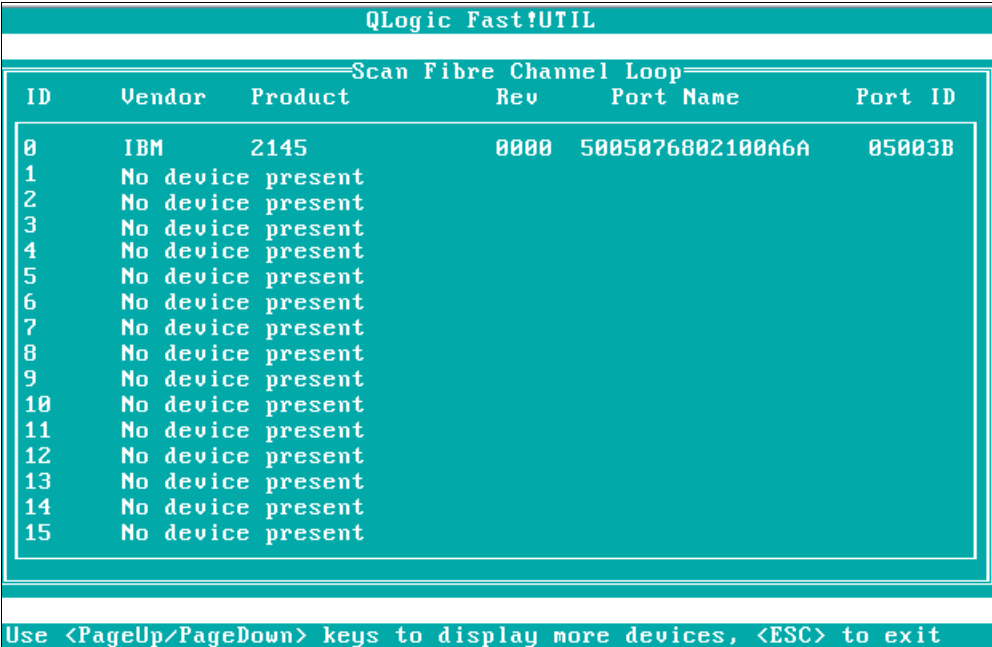

Figure 5-52 Select Boot Volume
10. Now click the **(Primary) Boot Port Name, Lun** to select the source LUN for SAN Boot, as shown in Figure 5-52.